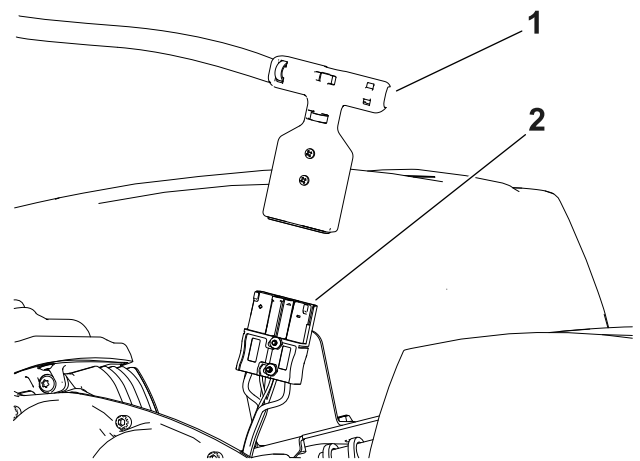

Figure 29
4. Disconnect the T-handle connector from the main wire harness to the main-power-supply connector on the battery base (Figure 29).